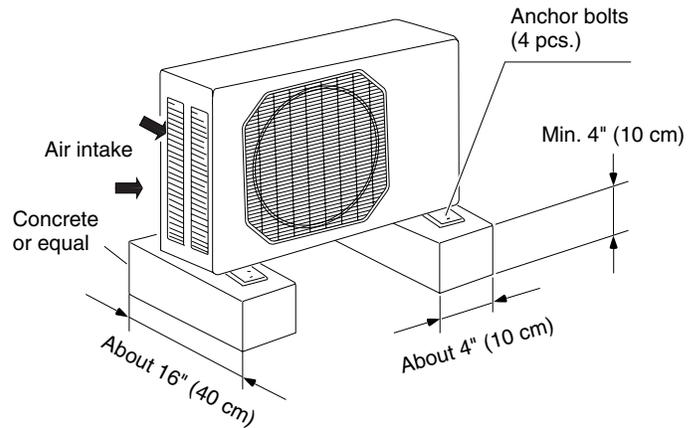

Fig. 5a
- allow enough room around the unit for air intake/ exhaust and possible maintenance. (Fig. 5a)
- provide a solid base (level concrete pad, concrete block, 4" × 1' 4" (10 × 40 cm) beams or equal), a minimum of 4" (10 cm) above ground level to reduce humidity and protect the unit against possible water damage and decreased service life. (Fig. 5a)